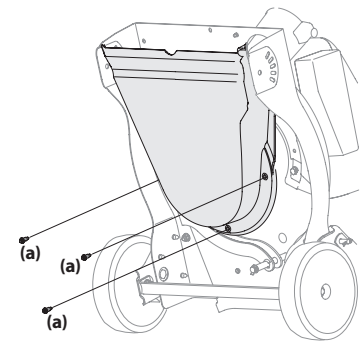

Figure 23
- Carefully tilt and support the unit up to provide access underneath to the nozzle mounting hardware and impeller. Remove the three shoulder bolts (a) securing the black plastic lower flail housing to the lower housing. Refer to Figure 23.